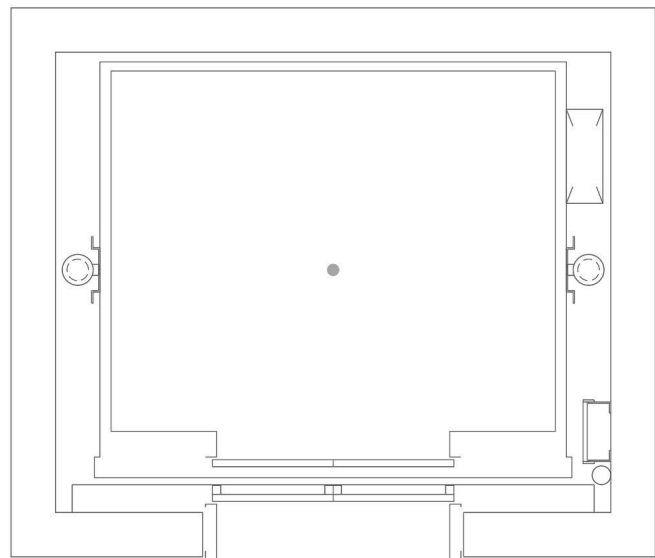

FIGURE 4-3.11 Elevator shaft drawing
17. Continue to use the **Join** command to clean up all sides of the elevator car as shown in Figure 4-3.11.
18. Select everything visible in Figure 4-3.11 and change its *Layer* to **0** (i.e., zero).